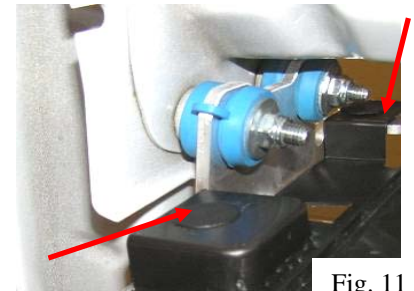

Fig. 11
- 30) Install the plastic shroud on the outside of the AFCO brackets using the four factory clips (Fig. 11).